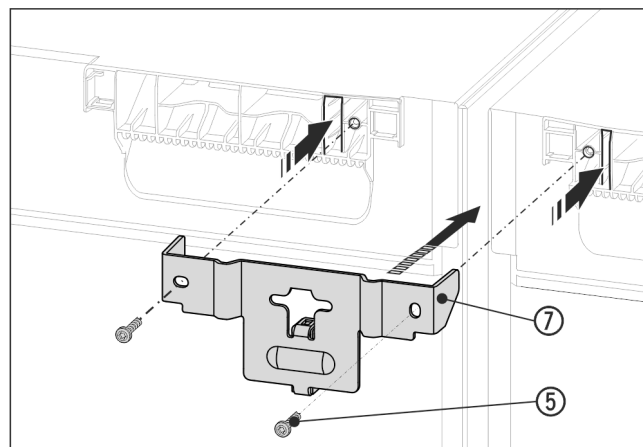

Fig. 15 Example illustration
- Slide the bracket *Fig. 15 (7)* with the spacer between the appliances and onto the appliance ceiling with the lugs. Tighten with 2 screws *Fig. 15 (5)*.